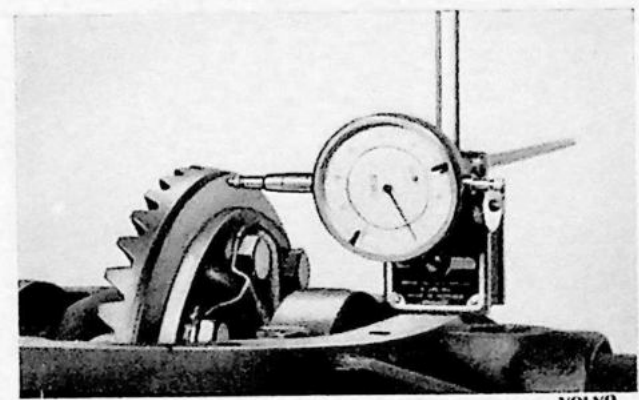

Fig. 40. Measuring ring gear run-out.
12. Fit the caps (32, 41) with bolts and tighten the bolts. Place a dial indicator gauge against the back side of the ring gear, see fig. 40. Pull the ring gear round and measure the run-out. This must not exceed 0.08 mm (0.003").